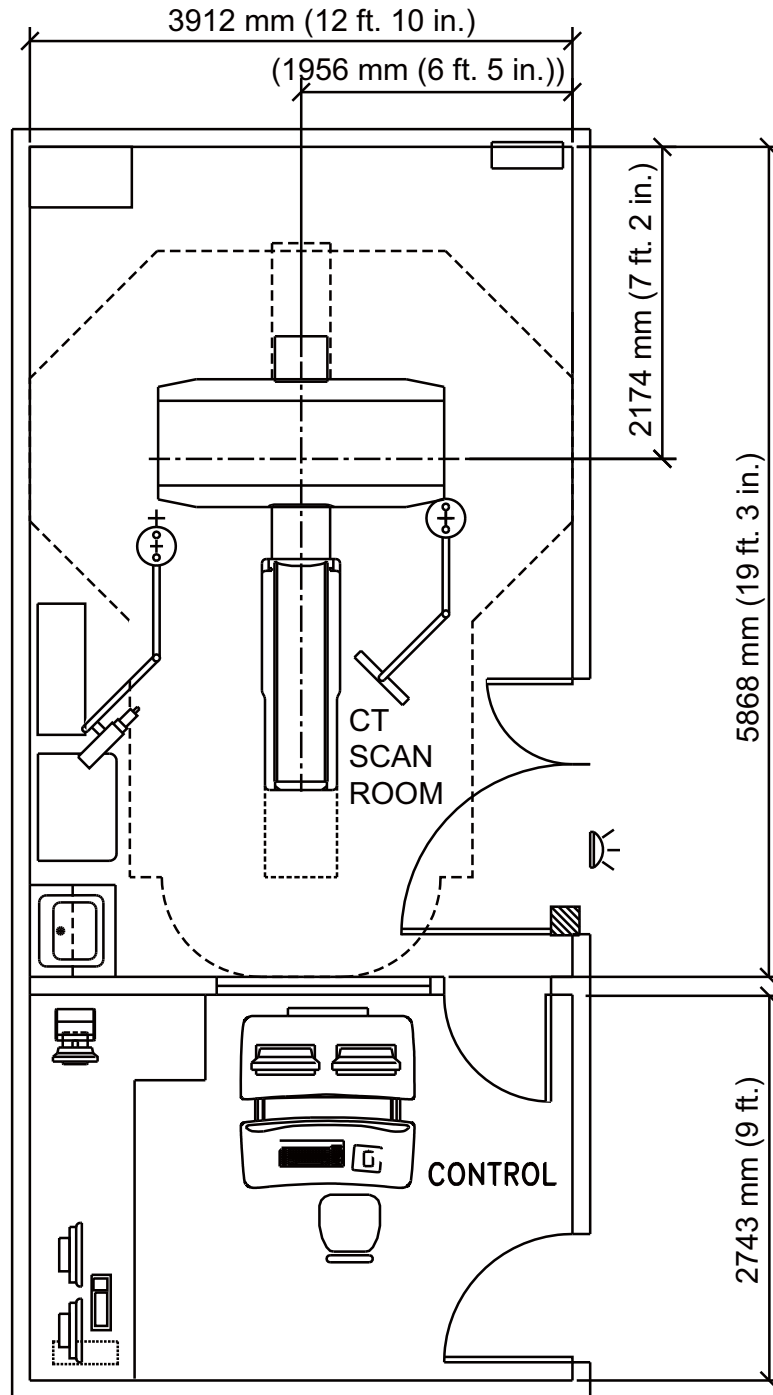
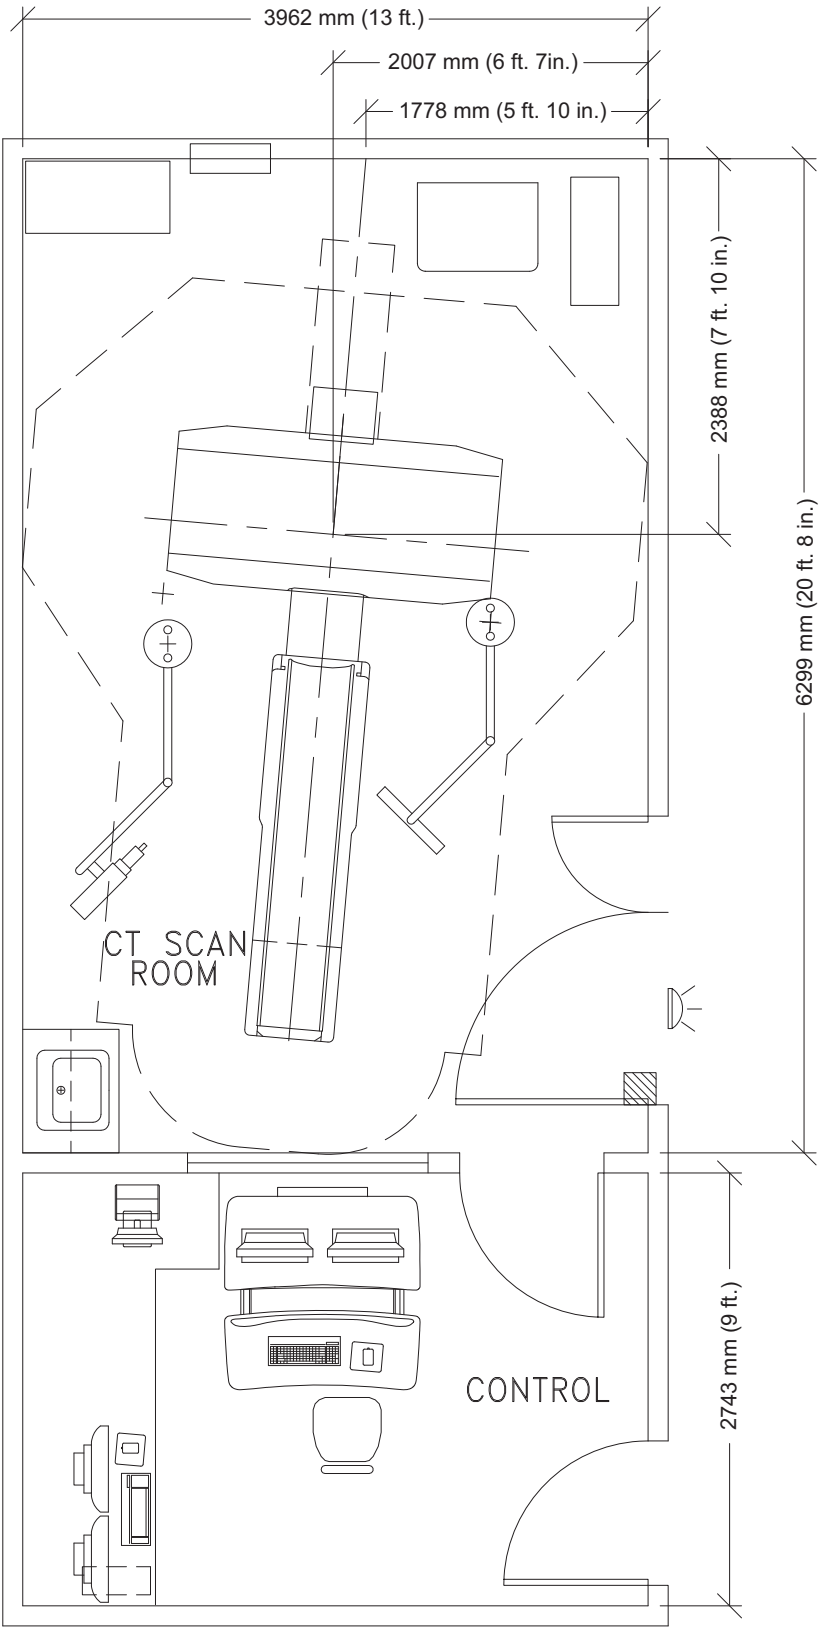

Figure 4-2 Typical Room Layout for BrightSpeed Select System
Figure 4-3 Recommended Room Layout for BrightSpeed Select System
Figure 4-2, Figure 4-3 and Figure 4-4 show Typical and Recommended room layouts. You need to be aware of locations for medical gas, surface ductwork, or other items that make a grounded wall.
Note: Your room layout may meet the Typical or Recommended room requirements but look different than Figure 4-2, Figure 4-3 and Figure 4-4. Contact your sales person to have a detail room layout completed for your site.
- Standard Console: Console + Single Piece Desktop (See Figure 4-2);